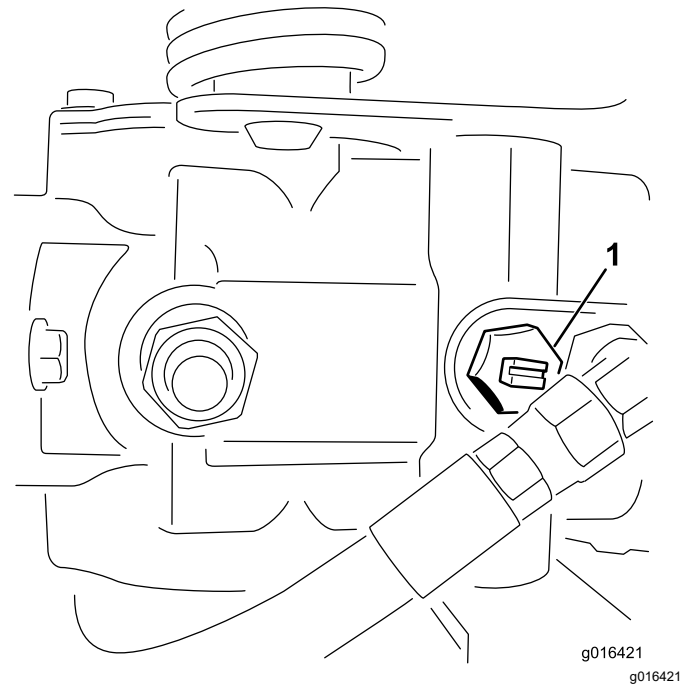

Figure 24
1. Locate the bypass valve on the pump and rotate it counter-clockwise 2 full turns (Figure 24).
2. Before starting the engine, close the bypass valve by rotating it clockwise 2 full turns (Figure 24).